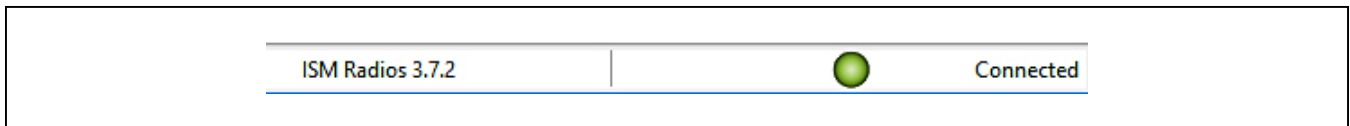

Figure 8. Connected, Indicators at Bottom of GUI
- a. Select the appropriate COM port and click on the <Connect> button (see Figure 8).